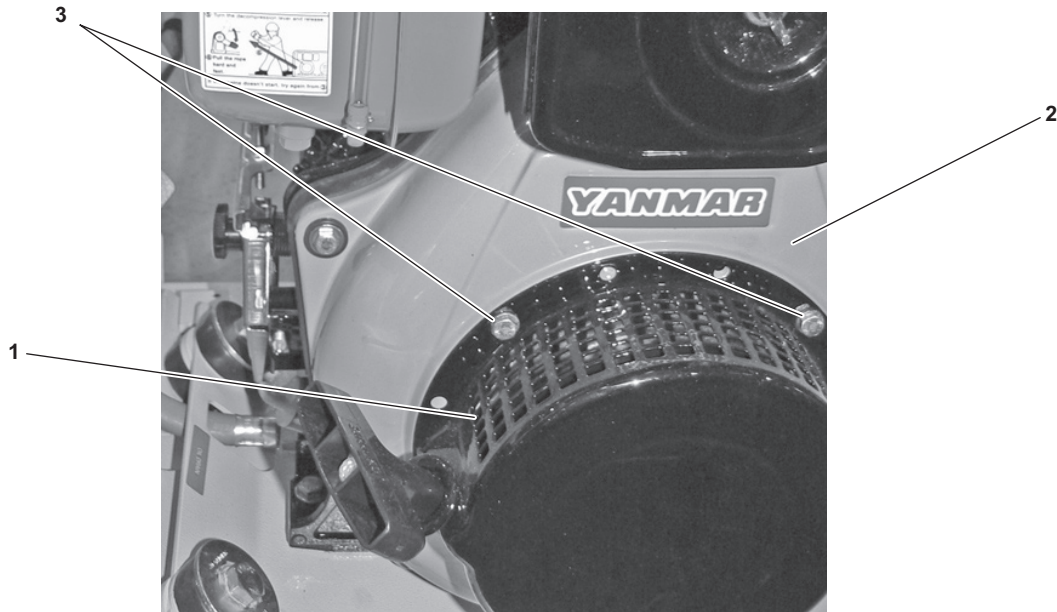

Figure 6-45. Recoil Starter Assembly
- (1) Note the position of the recoil starter assembly (figure 6-45, item 1) in relation to the diesel engine (figure 6-45, item 2).
- (2) While supporting the recoil starter assembly (figure 6-45, item 1), use a 3/8 inch wrench to remove the four bolts (figure 6-45, item 3) that secure the recoil starter assembly to the engine (figure 6-45, item 2). Remove the recoil starter assembly from the engine.
- (3) If the recoil starter assembly (figure 6-45, item 1) is faulty, obtain a new recoil starter assembly and rope assembly. Proceed to the replacement steps in paragraph 6.4.18.c.(6).
- (4) If only the starter rope is being replaced, place the recoil starter assembly (figure 6-45, item 1) on a flat work surface with the inside of the recoil starter assembly facing up.
- (6) Place the new recoil starter assembly (figure 6-45, item 1) on the engine (figure 6-45, item 2) in the same position as before (9 o'clock position).
- (7) Align the mounting holes and insert all four mounting bolts (figure 6-45, item 3). After all four bolts are in place, tighten each using a 3/8 inch wrench by turning CW until snug.